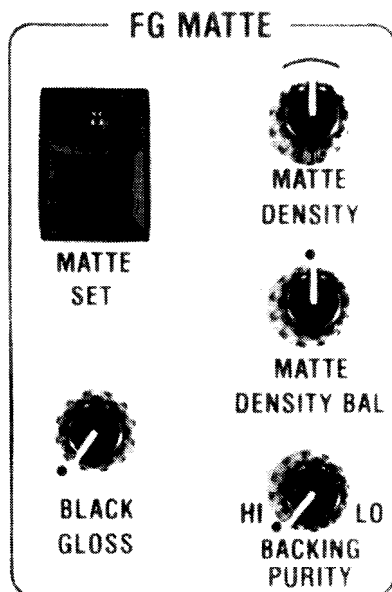

Figure 4-4. Foreground Matte Control Group
**4-19. FG MATTE.** (See figure 4-4.)